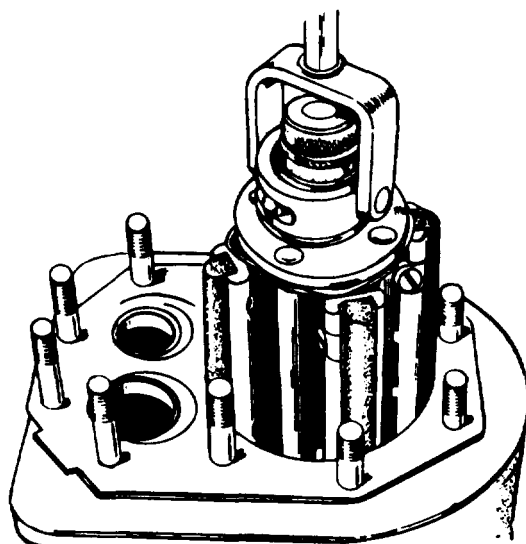

Figure 6-1, Honing a Cylinder (RGMD-K/1-10)
- (1) Reboring and honing of cylinders that are out of round or tapered.
- (a) A hone can be used to rebores a cylinder (figure 6-1). Remove stock to 0.002 inch (0.051 mm) undersize of finish bore with coarse hone (100 grit); then complete honing with finish hones (300 grit).